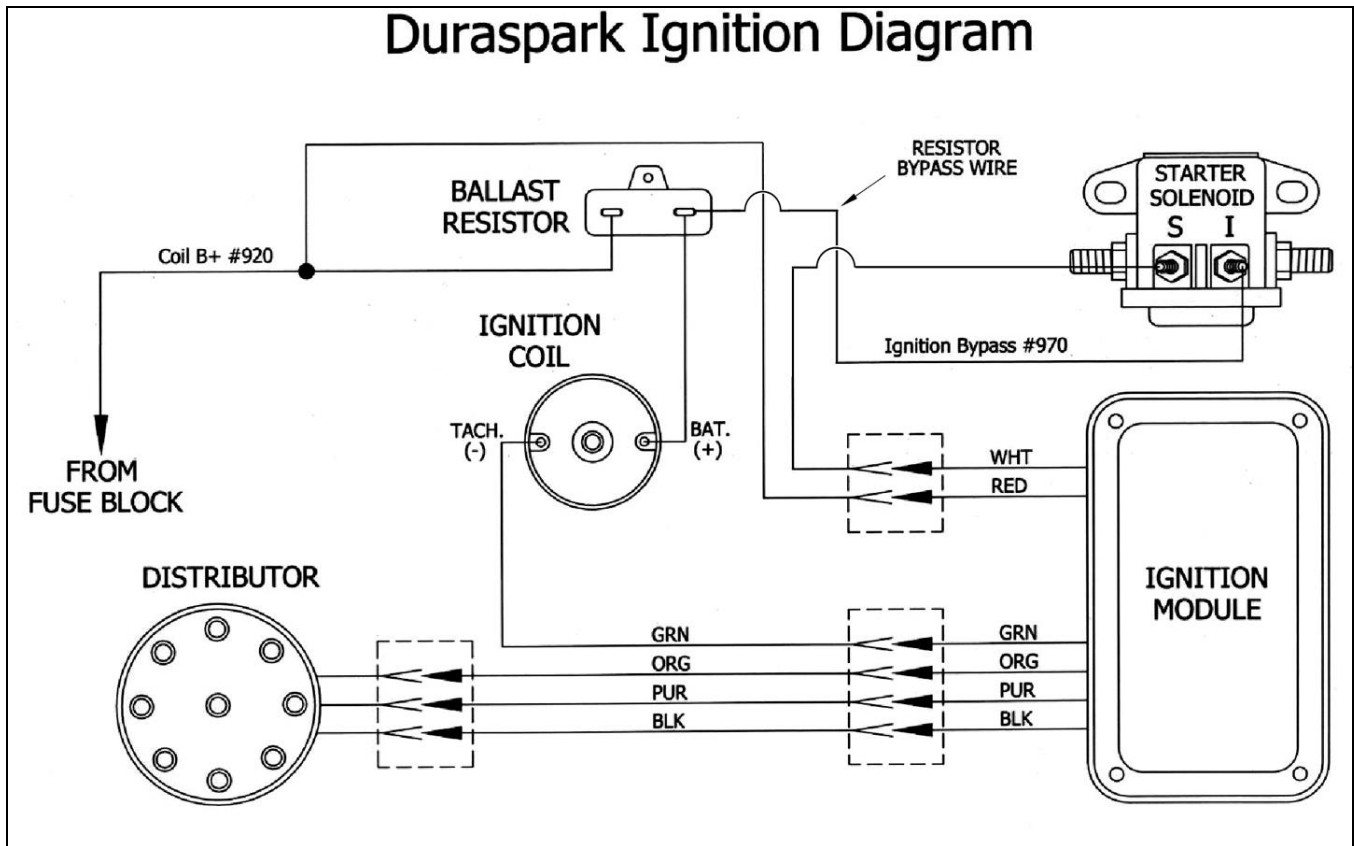

Figure 7-9 Ford Duraspark II Systems (Ford Electronic Ignition)
Electronic: 7.3.4 and Figure 7-9
7.3.4 If the truck has a Ford Duraspark II Electronic Ignition system refer to **Figure 7-9** for wiring details. If the terminals in the plugs on the stock Duraspark Ignition harness are corroded or the wires are frayed, then the harness will need to be replaced with **Painless Wiring P/N 30812.**